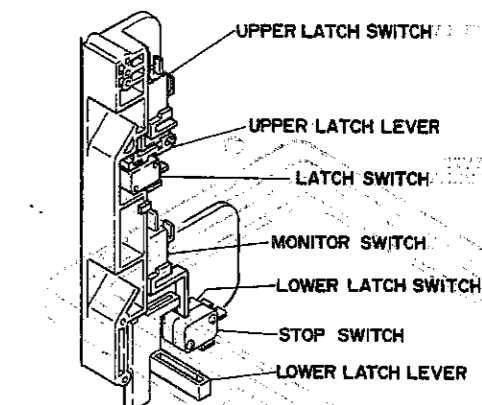

Figure C-3 Latch Switches Adjustment
1. Re-install the upper latch switch, latch switch and monitor switch in place, referring to Figure C-3
2. Re-install the lower latch switch and stop switch in place with the two (2) screws and nuts, referring to Figure C-3
3. Re-install the latch hook to the oven cavity flange with the two (2) screws.
6. Re-install the relay angle to the unit chassis with the single (1) screw.